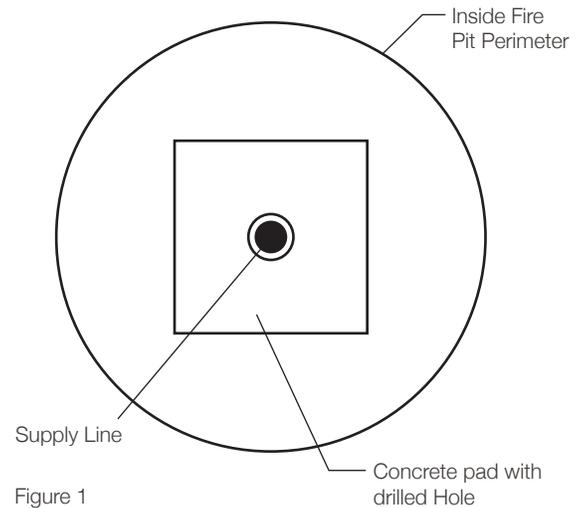

Figure 1
- 2) Install concrete pad over supply line. See Fig.1.
- 1) Find the inside dimension of the fire pit and add 1” to each dimension and draw on the basalt material. See Fig. 1.
<p>Figure 1: Fire Pit Enclosure Construction- Deck Install</p>